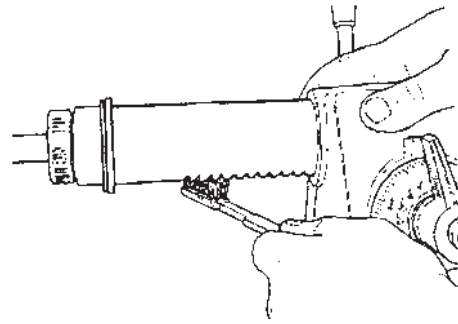

Figure D-7
b. **Quill** - Extend the quill as far as it will go, lock it in place, then wax. After waxing, brush the rack with a stiff brush to remove all the residue between the teeth, as shown in Figure D-7.